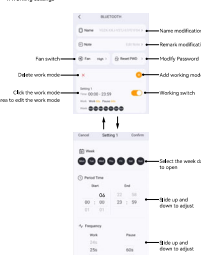

Figure 3
- Register a new account and log in according to the prompts on the registration interface (as Figure 3).